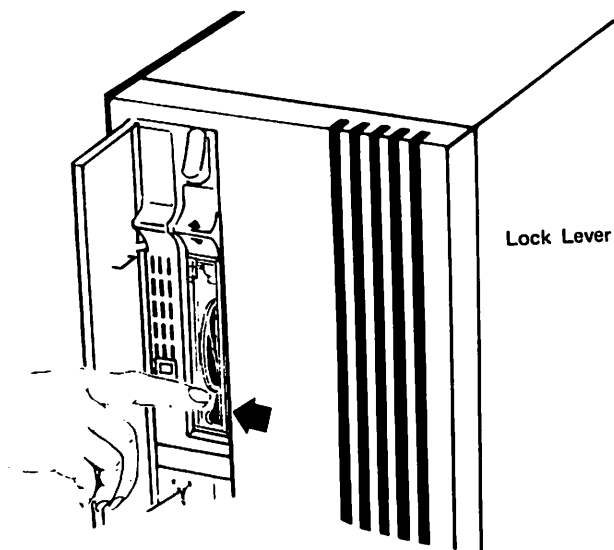

Figure 3 Removing streaming tape cartridge
4. Without releasing the pressure on the data cartridge, move the cartridge to the left with your finger as shown in Figure 3. The data cartridge should click into place. Remove your finger from the data cartridge.